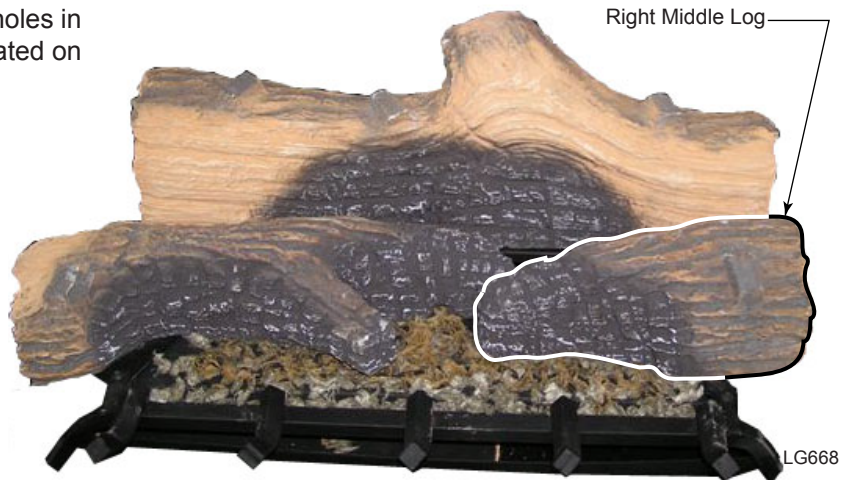

**Figure 61 -
- Place the right middle log by aligning the holes in the bottom of the log with the two pins located on the right side of the burner. *Figure 61*